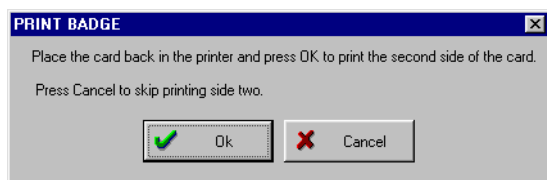

Figure 37: Two-Side Print Badge Window
5. When you are ready to print the badge, click the  button. After a several second delay, the badge is printed. If you are printing a double-sided badge on a single-sided printer, the first side will be automatically sent to the printer and the Two-Side Print Badge Window will appear (see Figure 37). Once the first side has been printed and you have flipped the badge over, click the  button to print the second side.